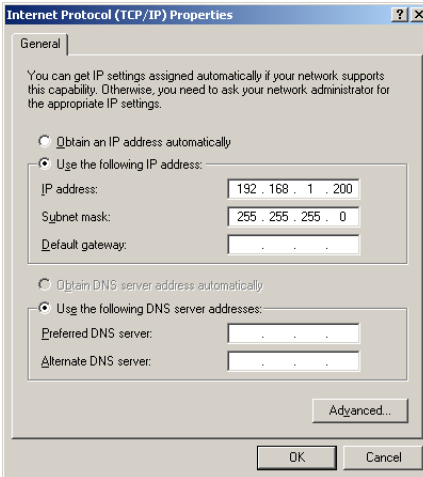

Figure 6-2 Internet Protocol Properties Window
4. Highlight the “Internet Protocol (TCP/IP)” item in the list, and click on the “Properties” button. The Internet Protocol Properties Window will open (Figure 6-2).